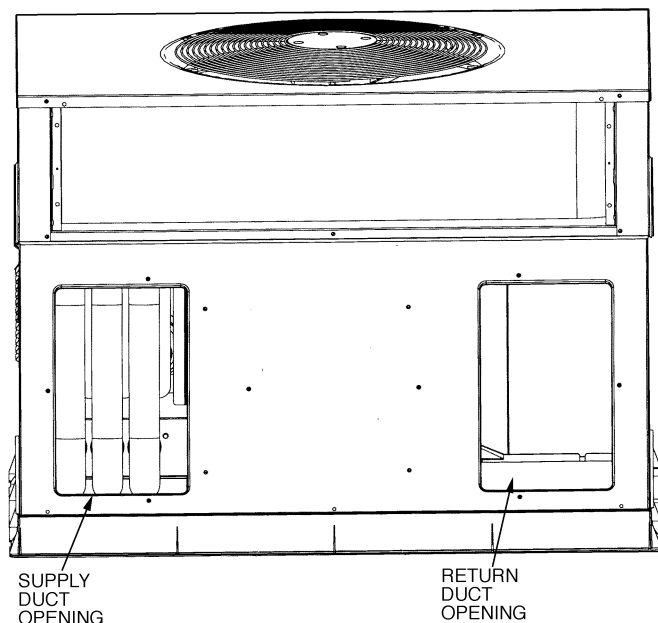

Fig. 9 — Supply and Return Duct Openings
2. Remove return duct cover located on duct panel by breaking connecting tabs with screwdriver and a hammer (Fig. 9).